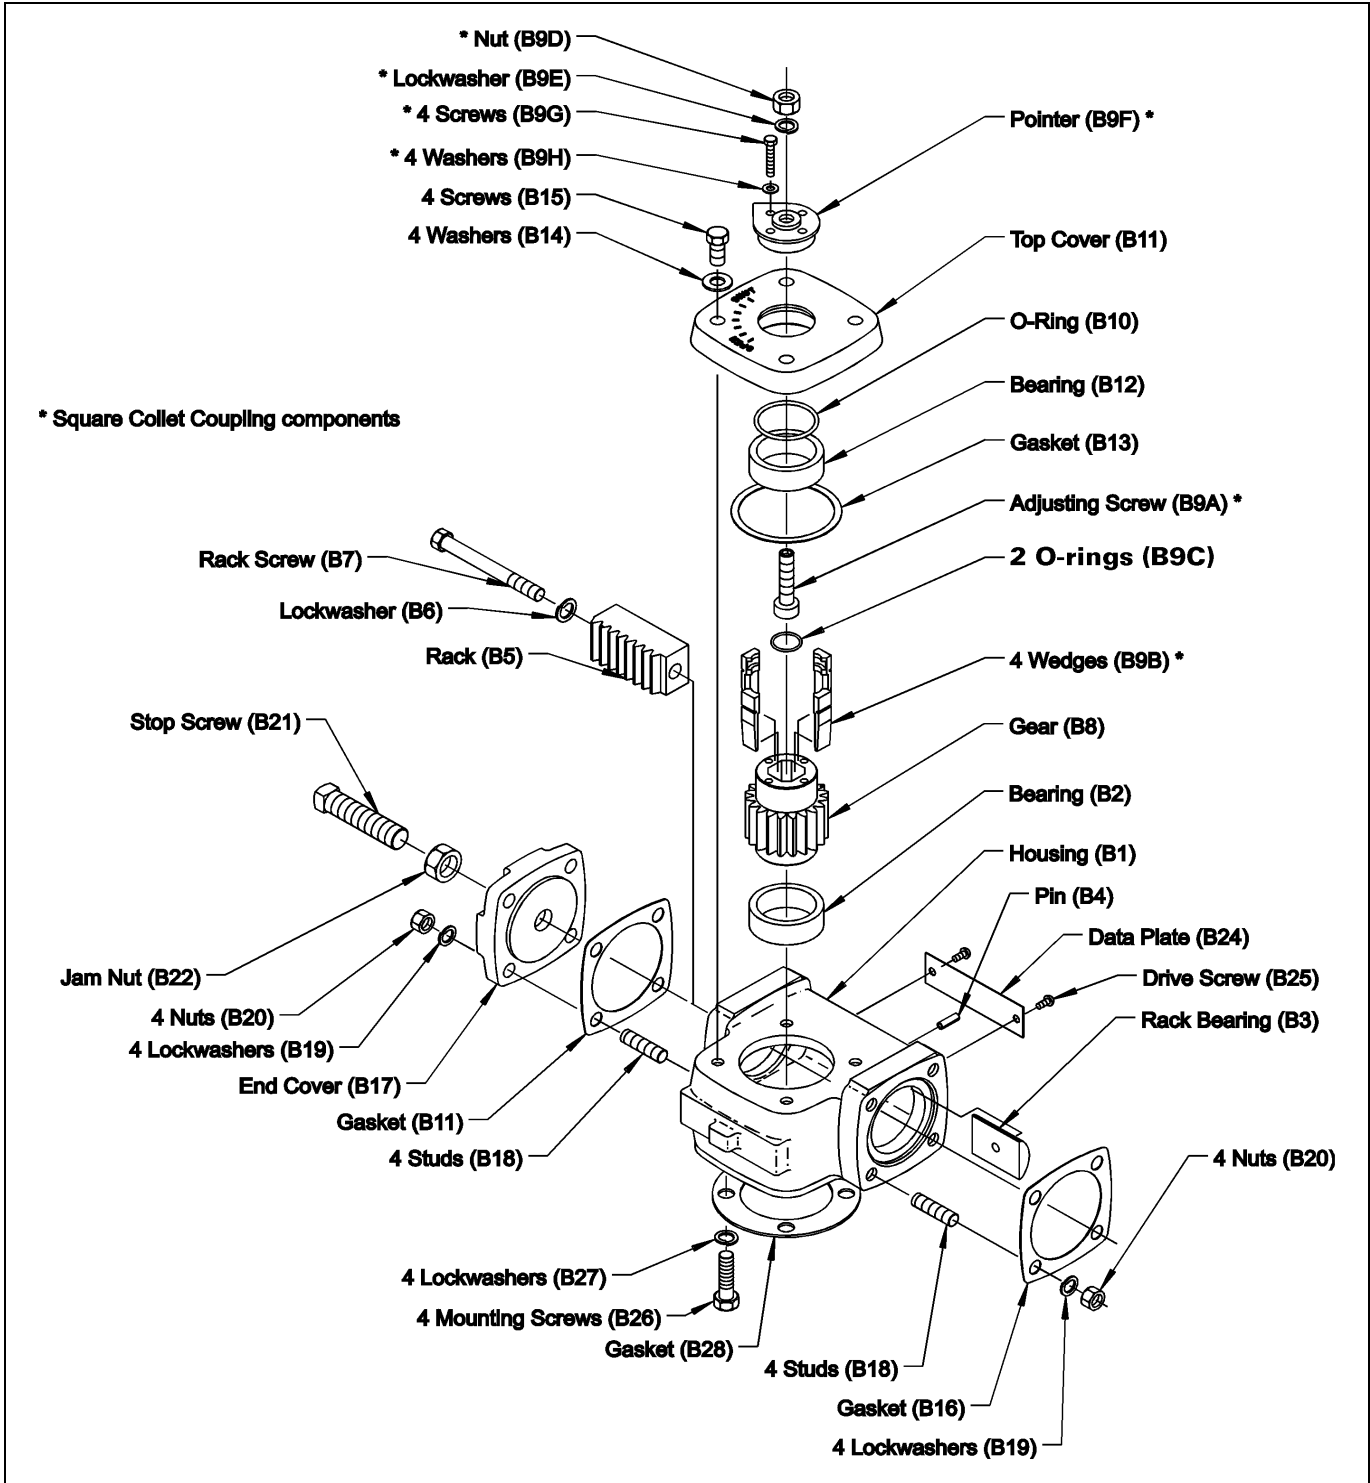

Figure 5 – Actuator Assembly, Less Cylinder
Refer to Figures 5 and 6 for component identification.
5. Remove the rack screw (B7) and lockwasher (B6), and separate the rack (B5) from the piston rod (S4) [Piston Rod Not Shown in Figure 5].
Refer to Figure 5 for component identification.